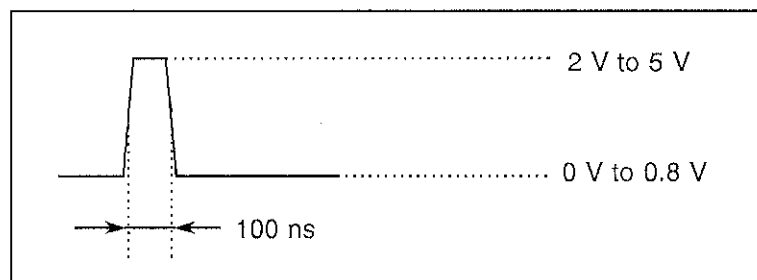

Figure 9-7 Waveform of the STRETCHED ERROR Output Signal (f = 1000 MHz, 50 ns/div)
- (5) If the waveform on the oscilloscope is a square wave which is similar to the one shown in Figure 9-7, the STRETCHED ERROR output signal is evaluated as normal.